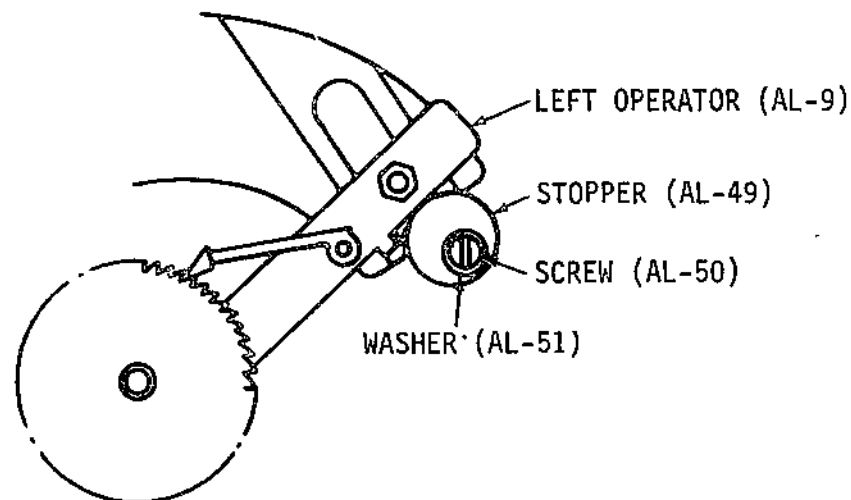

Figure 5-17. LEFT OPERATOR AND STOPPER ADJUSTMENT
- (c) Loosen screw (AL-50) on left pawl operator stopper (AL-49) and reset stopper with high side touching the right side of the left pawl operator (See Fig. 5-17). Tighten screw.